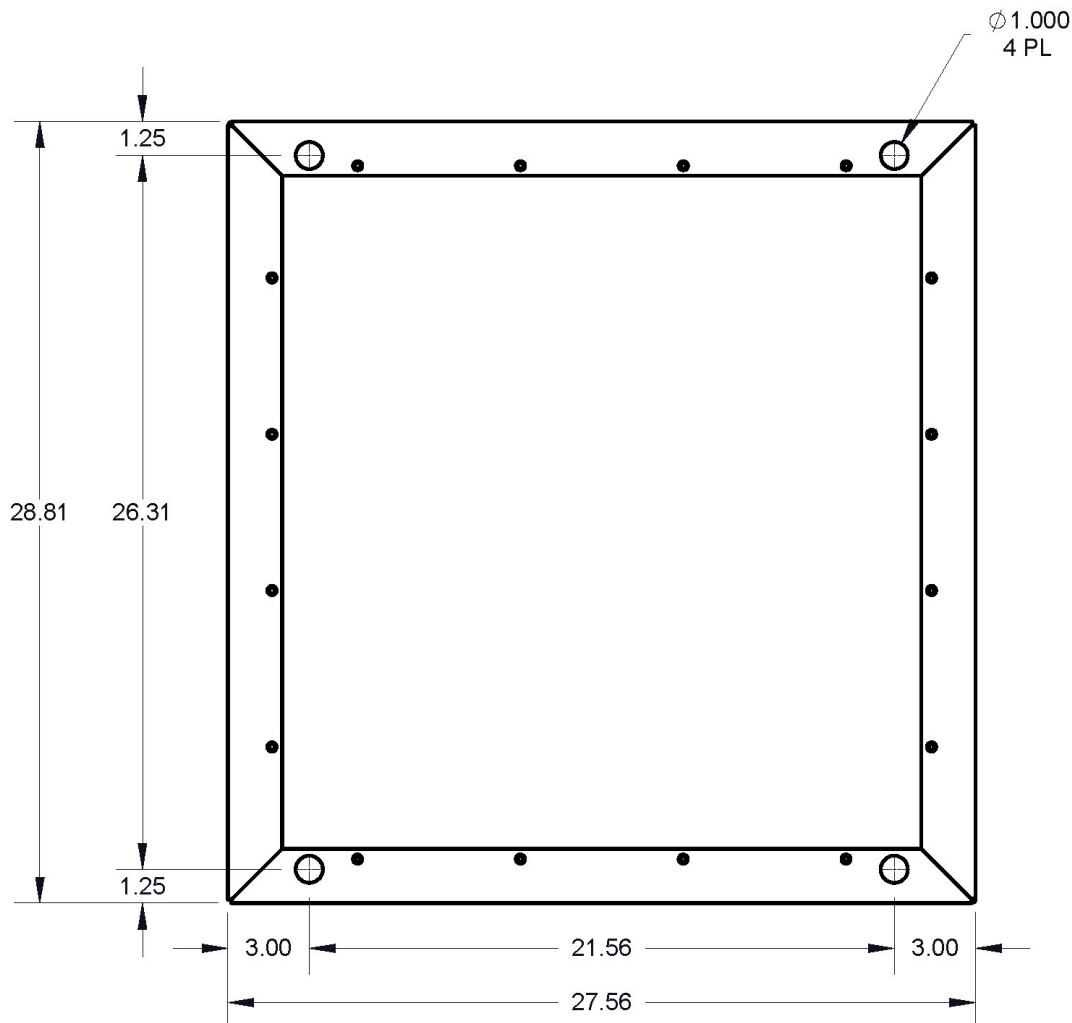

Figure 6 — Plinth Template for Mounting Bolts
2. Remove the bottom battery tray to access the mounting holes at the edges of the enclosure—eight screws per side as shown in Figure 6.